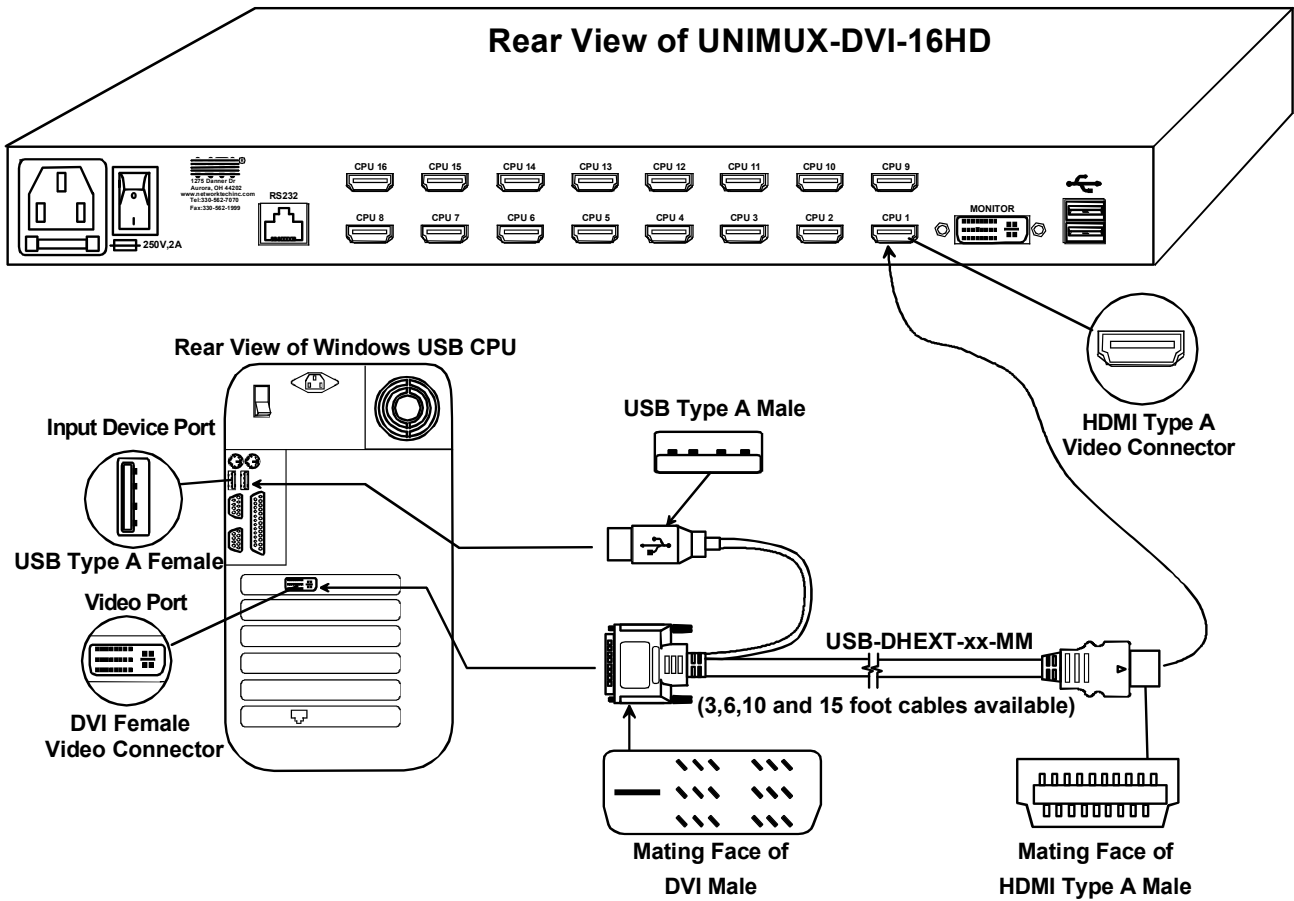

Figure 5- Connect each CPU
- Connect each CPU to the USB switch using a USB-DHEXT-xx-MM (xx=3, 6, 10, or 15 foot) cable for each video and input device connection – REQUIRED (not supplied). (See Fig. 5 below.) Cables are available from NTI.